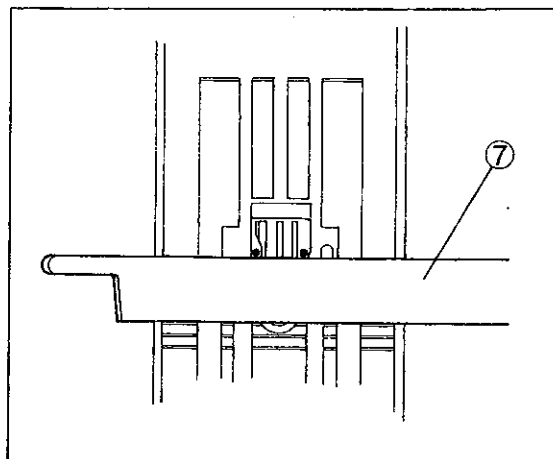

Fig. 1-5
It is easy to check the parallelism of the needle and the needle drop if you use the upper knife ⑦, with the lateral groove of the stitch plate as a reference. (Fig. 1-5)